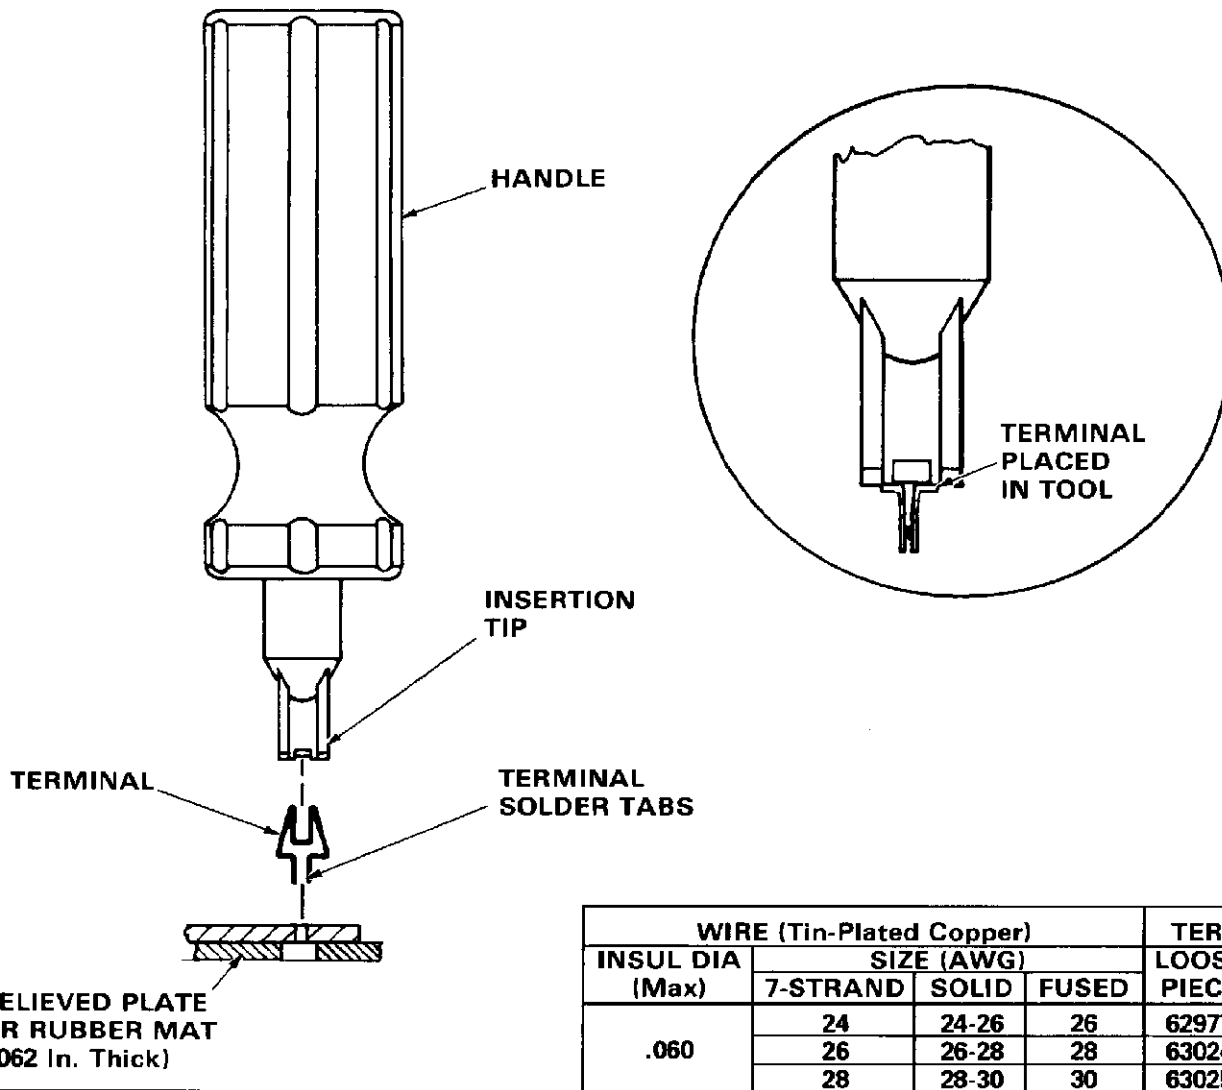
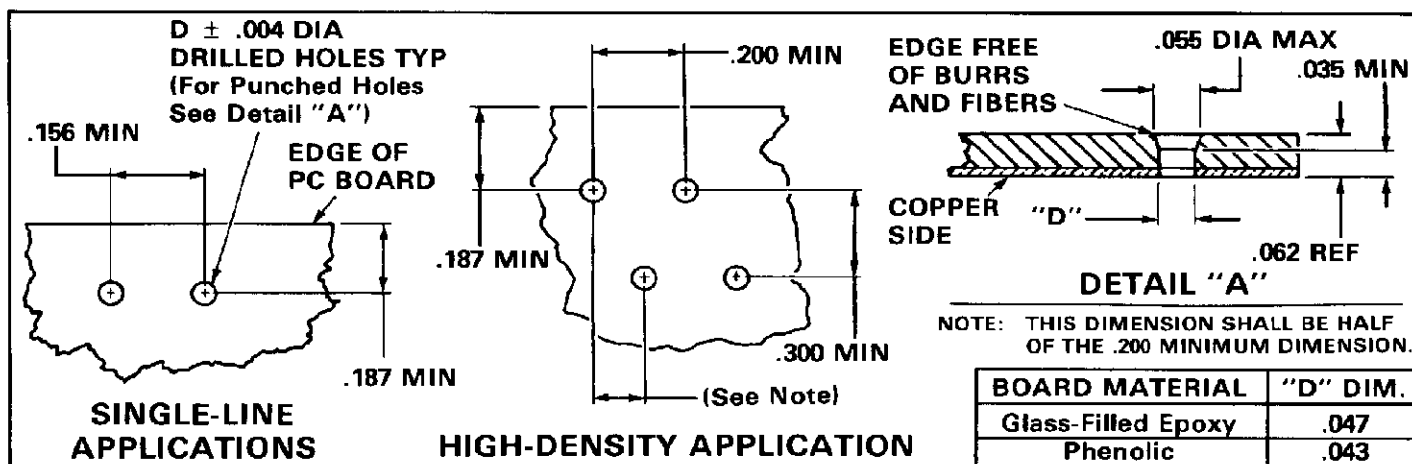

Fig. 1
Fig. 2
This instruction sheet (IS) covers the use of the AMP Insertion Tool 274448-1 which inserts AMP loose-piece Quadra-Mate 100 Series Terminals listed in Figure 1 into pc boards. The tool is also used to insert tin-plated copper wire into the already inserted terminal. Read these instructions carefully before inserting any terminals into the pc boards.
Arrange a hole pattern for pc board according to layout in Figure 2, then insert terminal as follows (Figure 1):